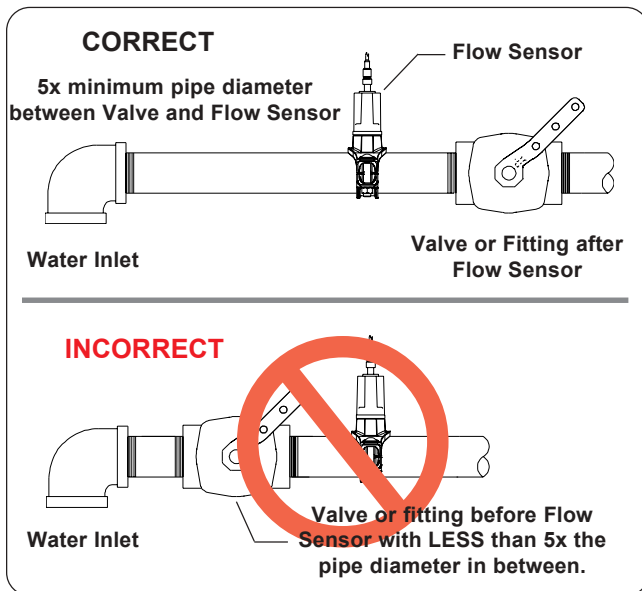

Figure 15: Flow Sensor Placement
1. A minimum of **6 times the pipe diameter** of straight run pipe without any fittings is necessary prior to the flow sensor paddle wheel. (See Figure 15: "Flow Sensor Placement" on page 38.)